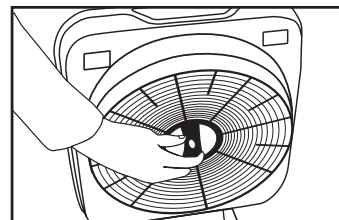

Fig. 10
3. Remove the nano-coil filter from the unit by grasping the center handle and pulling out from the center hub. See Fig. 10
5. Replace the nano-coil filter. Make sure to align the center of the filter handle with the center hub. Filter handle should be vertical. Be sure the post on the center hub comes through the hole on the filter's handle. See Fig. 10